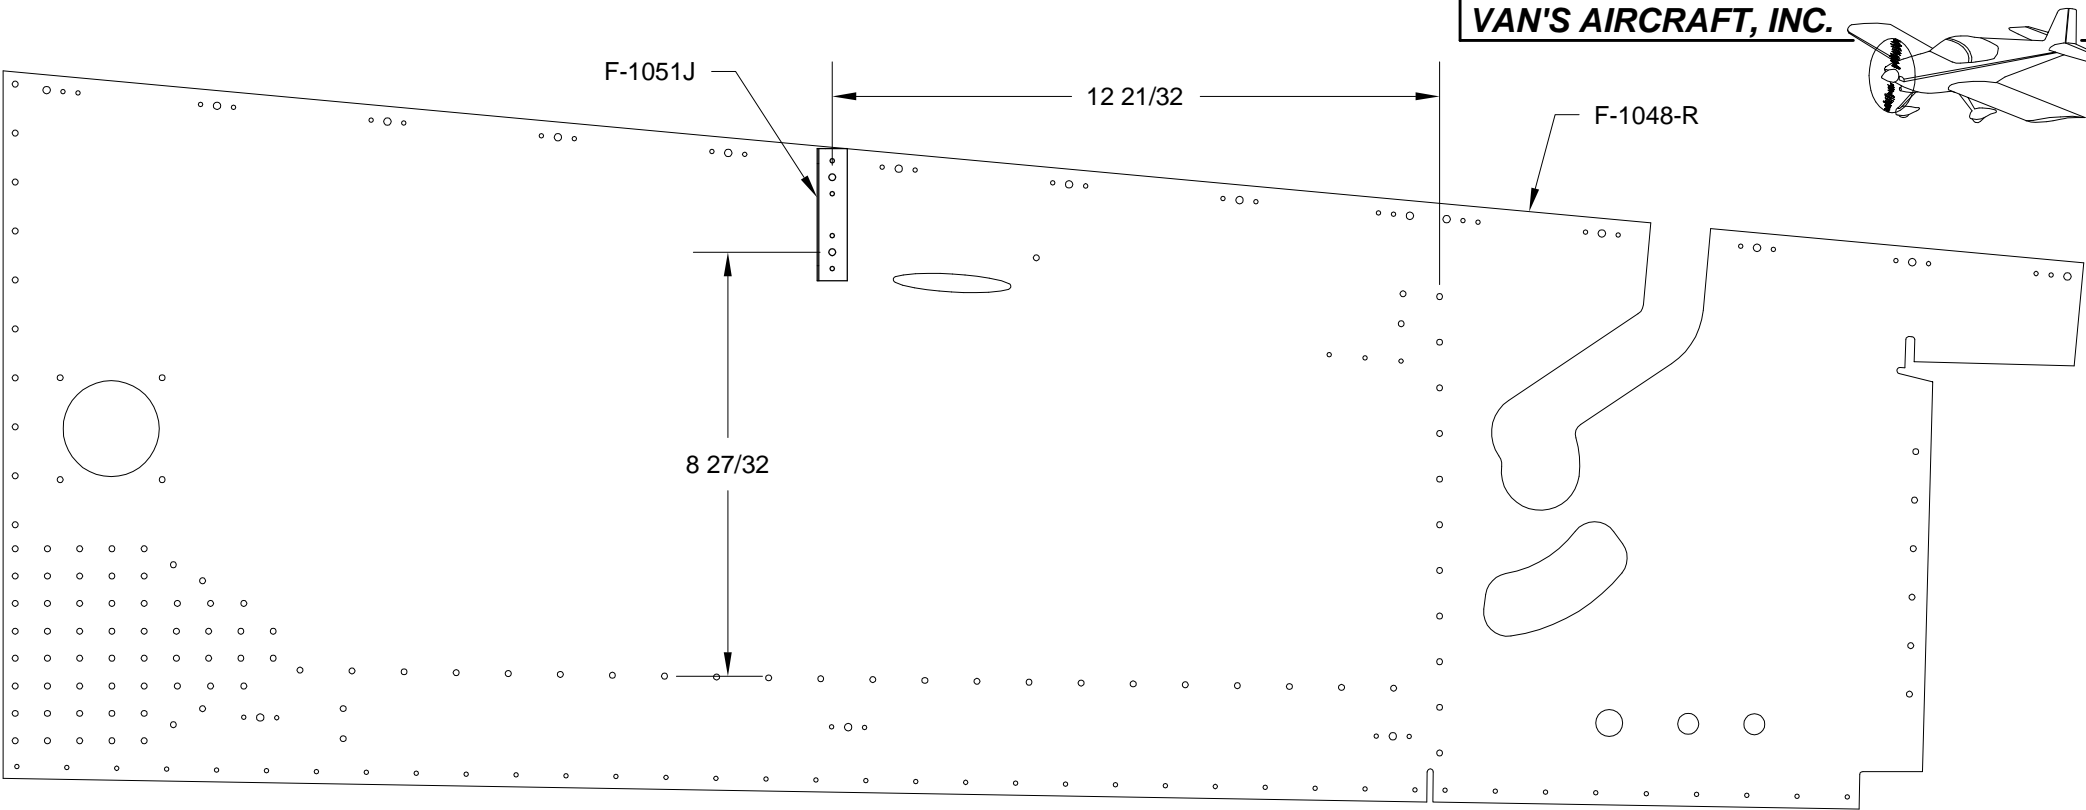

FIGURE 1: DRILLING THE F-1048-R FWD FUSELAGE RIB
Step 3: Using a #8 screw align the F-1051J Scat Tube Support parallel with the forward edge of the F-1048-R Fwd Fuselage Rib as shown in Figure 1. Match-Drill #19 the upper screw hole into the fwd fuselage rib. Remove the scat tube support. Final-drill #19 the lower screw hole in the scat tube support.